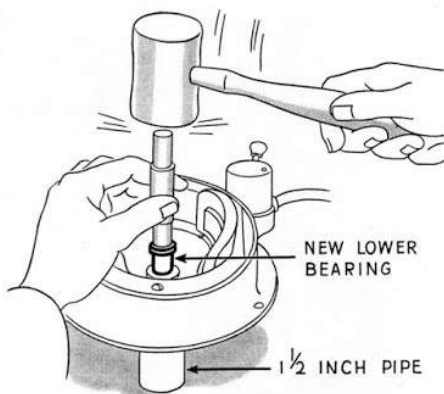

FIG. 62—Installing new lower solid bronze sleeve bearing
5. Insert new lower bearing from the inside of the motor casing and drive it down into the motor bottom plate with the drift pin. See Figure 62.